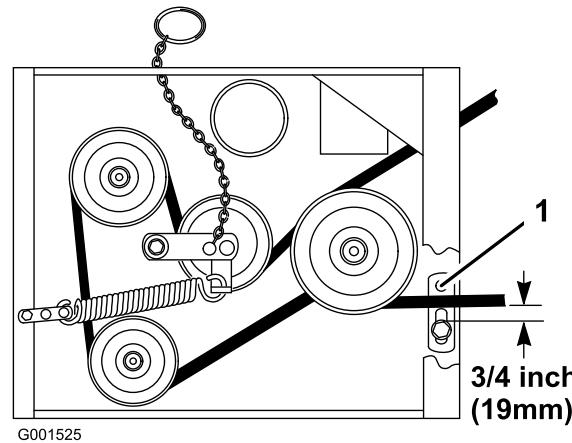

Figure 48
8. Check the belt guide under the engine frame for proper adjustment (Figure 48).
Note: The distance between the belt guide and the mower belt should be 3/4 inch (19 mm) when you engage the mower belt (Figure 48). Adjust the mower belt as necessary. The disengaged belt should not drag or fall off the pulley when the guides and belt tension are properly adjusted.